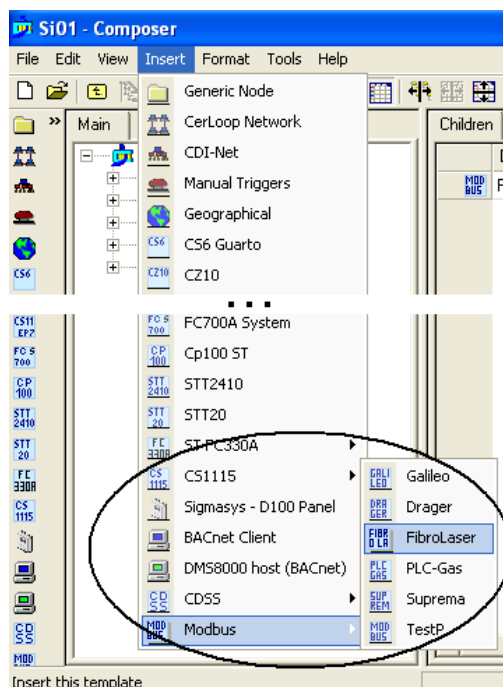

Fig. 21 Adding a Modbus subsystem
2. Click the Modbus icon  in the icon bar or in the **Insert** menu (see Fig. 21) and select the type, i.e. one of the customised models currently available.